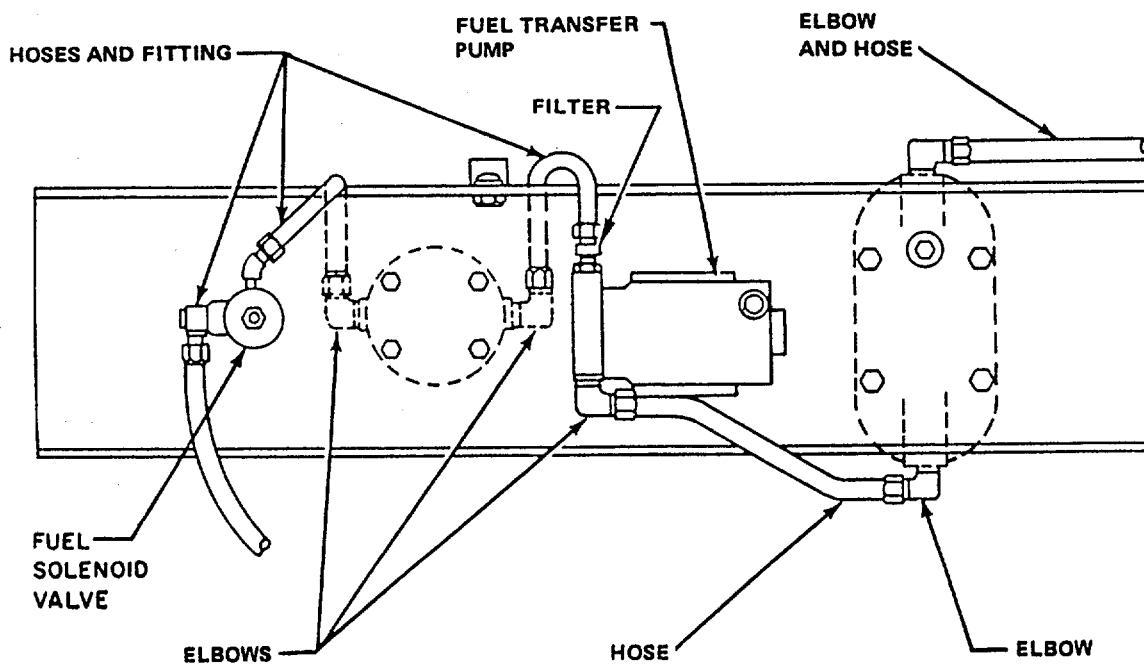

Figure 3-2. Fuel Transfer Pump Inspection Points
- a. Inspection. See figure 3-2 and inspect fuel transfer pump for leaks at elbows, connectors, drain cocks, and filters. Tighten as necessary. Inspect motor for overheating indications.